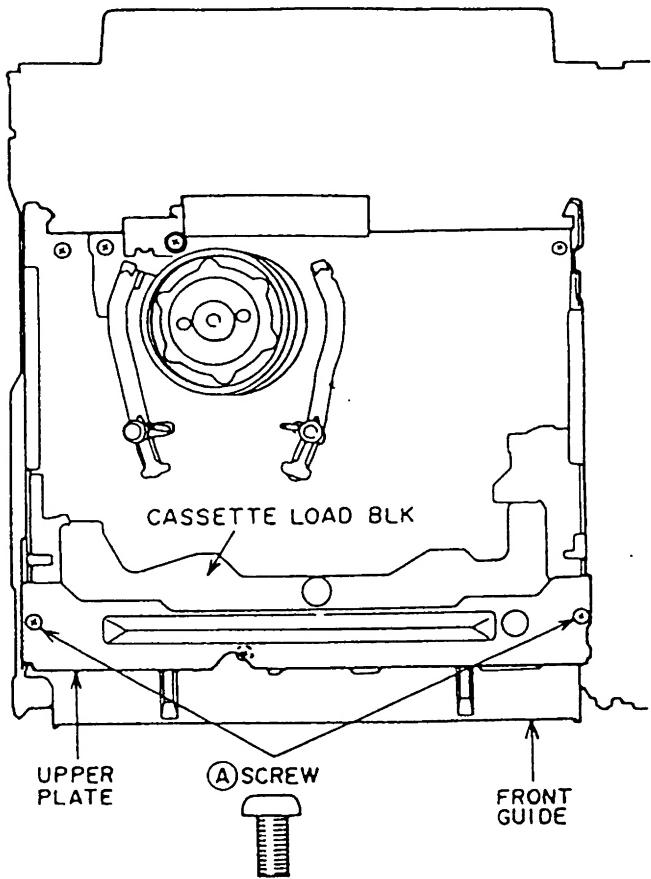

Fig. 3-1
- 1) Remove the two **(A)** screws on the UPPER PLATE as shown in Fig. 3-1 then remove the UPPER PLATE.